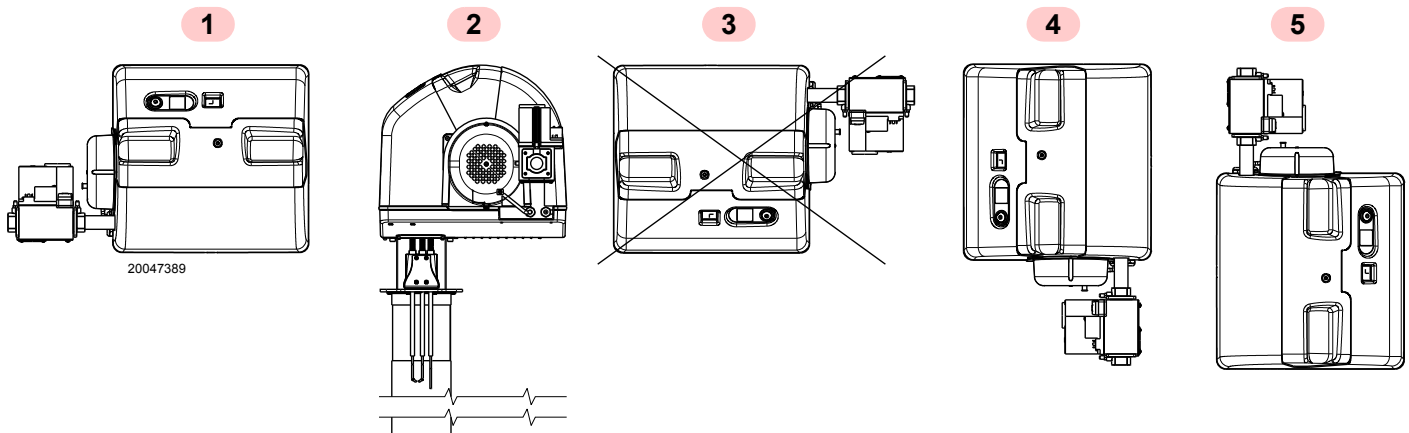

Fig. 9
- The burner is designed to operate only in positions **1**, **2**, **4** and **5** (Fig. 9).